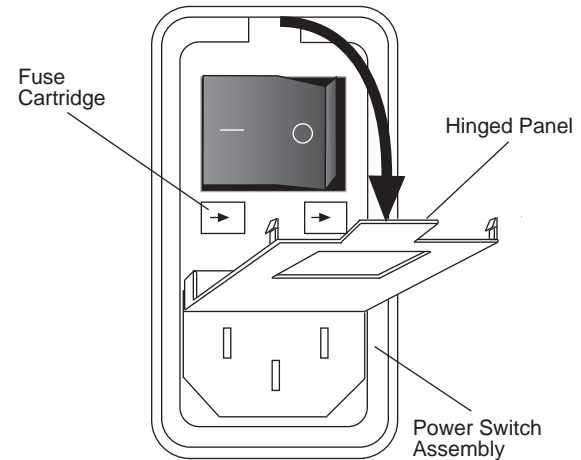

Figure 7-1 Accessing the AC Power Fuses
- 1 Insert the small flat-blade screwdriver into the slot at the top of the Power Switch assembly and flip down the hinged panel covering the fuse cartridges. See Figure 7-1.